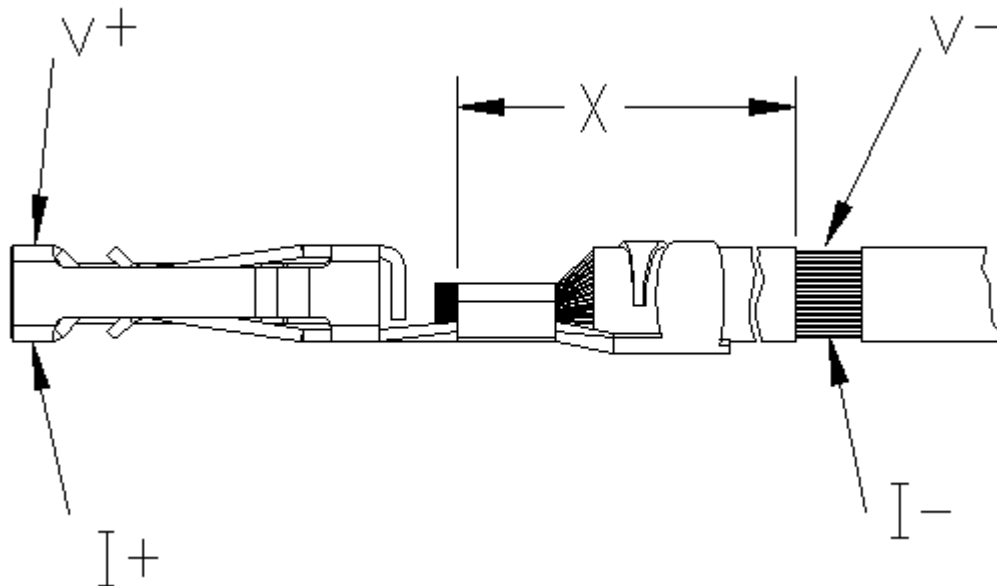

Figure 1 Receptacle signal crimped contact
- a Method of connection – For Signals attach current and voltage leads as shown in Figure 1 & 2